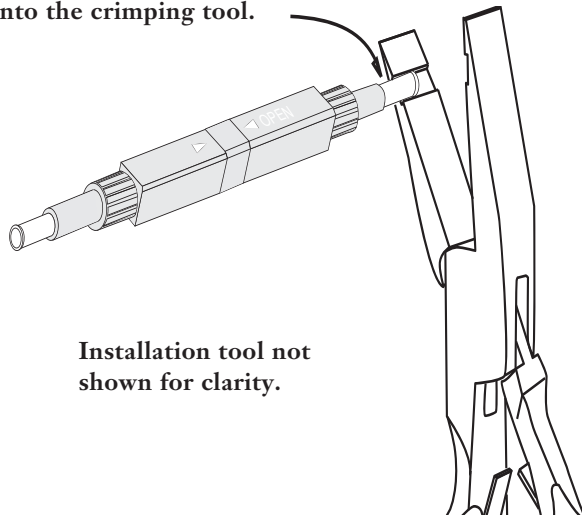

Figure 2
4.1 Without removing the splice part from the installation tool, position the groove in the crimp tool jaws over the outer half (about halfway from the end) of the crimp tube as shown in Figure 2.